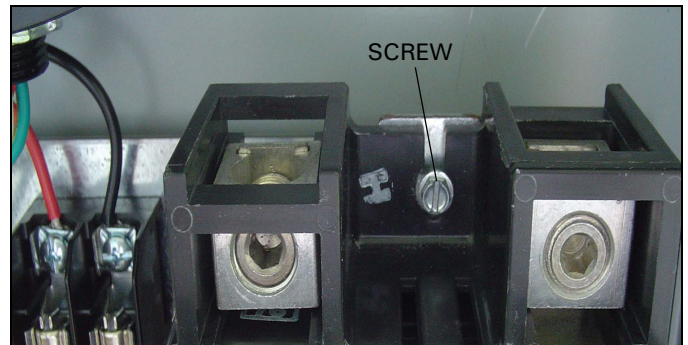

Figure 42. Location of the Top Service Entrance Breaker Mounting Screw.
- Step 4:** Remove the screw securing the top of the service entrance breaker to the mounting bracket using a blade screwdriver or 0.25 in. nut driver. Remove the service entrance breaker from the ATS (see Figure 42).
- Step 6:** Loosely secure the top of the service entrance breaker to the mounting bracket using the hardware provided (see Figure 42).